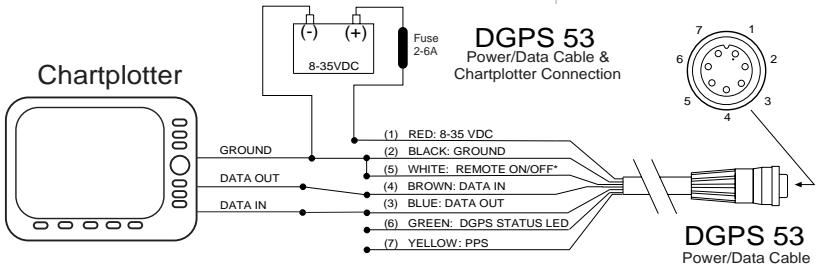

Figure 3: Wiring a Chartplotter To the DGPS 53
1. You may reference Figures 3 or 4 on the following page for the wiring: Connect the BLUE (Data Out) wire from the DGPS 53's power/data cable to the DATA INPUT line of the chartplotter or to pin 2 on the DB9 (pin 3 on DB25).